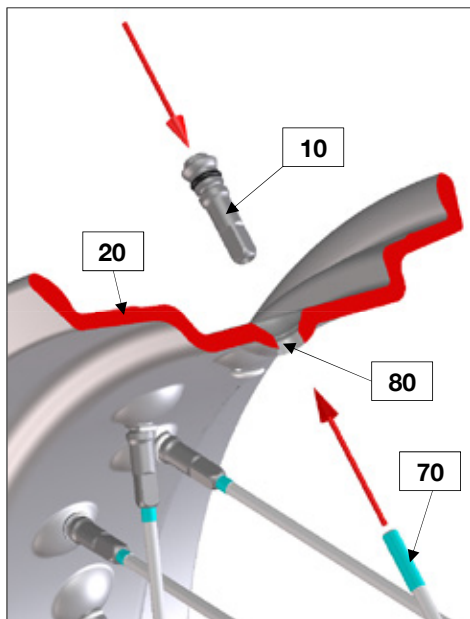

Fig. 80
If the axial sealing system of the nipple was by means of a spiral clip (120) (previously inserted into the system, see Fig. 80) it will be sufficient to insert it in its seat (110) by making it slide axially on the nipple (10) (operation to be performed with bare hands).